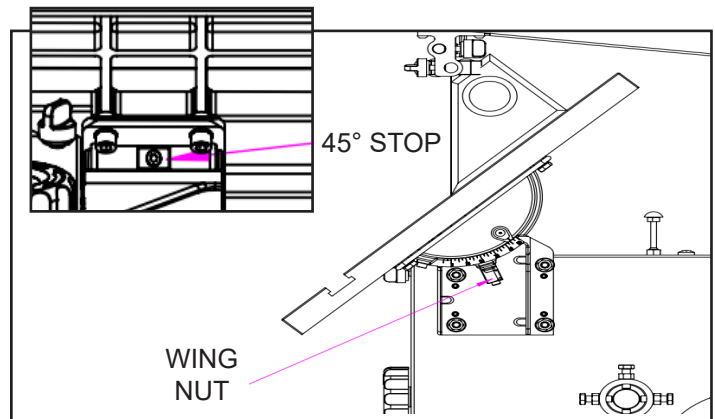

FIGURE 13
1. To tilt the table, loosen the Wing Nut (#154) on the table trunnion. Set the table to the required angle and then tighten the wing nut to secure the table. FIG 13.
The trunnion features a Stop (#151) that adjusts to set the table angle at a precise 45° angle. FIG. 13 Inset.